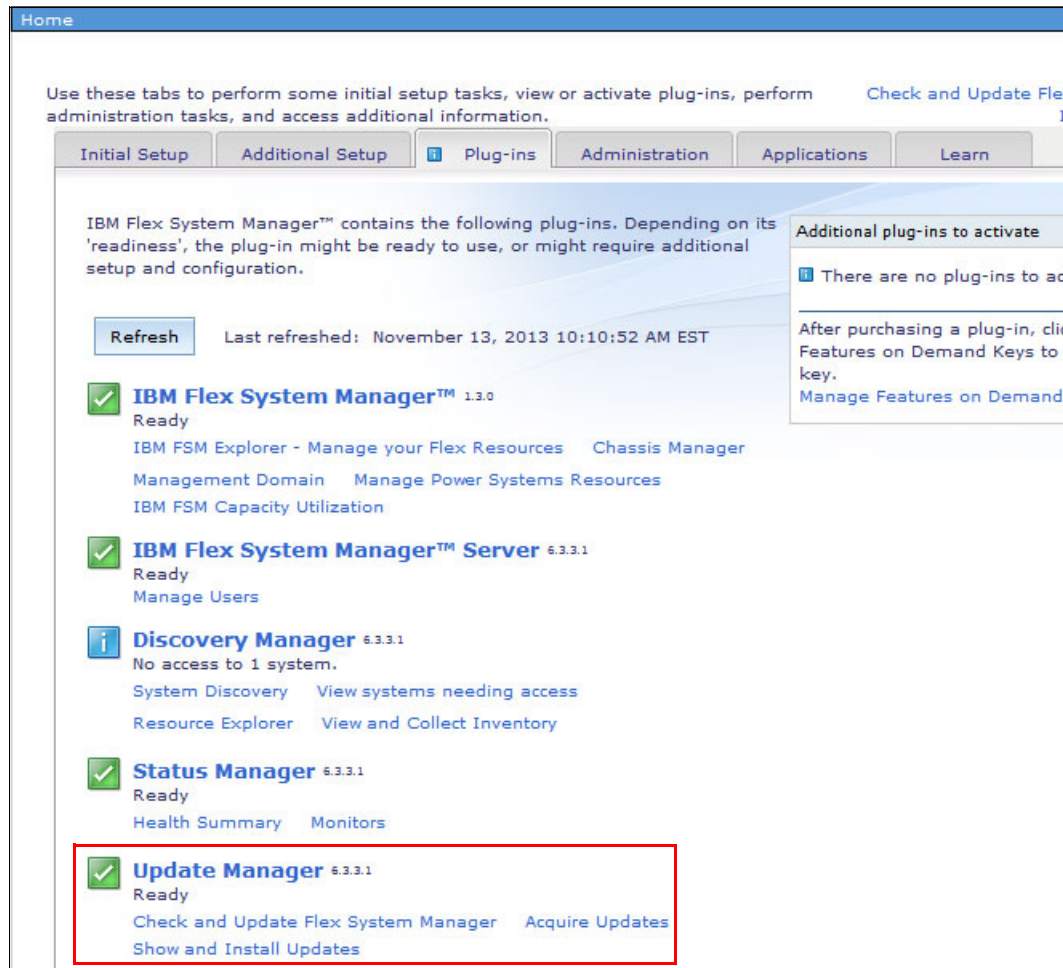

Figure 6-103 Plug-ins window: Update Manager
1. Click the **Update Manager** link from the Plug-ins tab on the Home page, as shown in Figure 6-103.